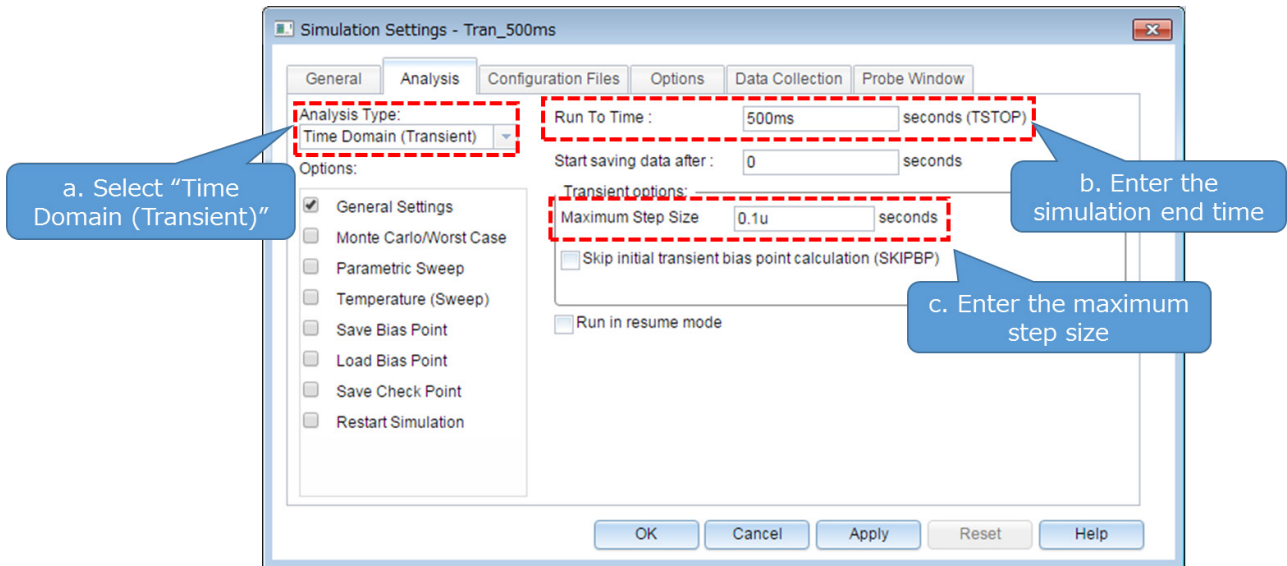

Figure 5.3 Simulation Settings - Analysis dialog box
- Then, the Simulation Settings dialog box shown in Figure 5.3 appears. In this dialog box, you can set parameters for various types of analysis. First, click the **Analysis** tab. Select **Time Domain (Transient)** from the **Analysis Type** drop-down list. Enter the simulation end time in the **Run To Time** field and the maximum step size in the **Maximum Step Size** field.